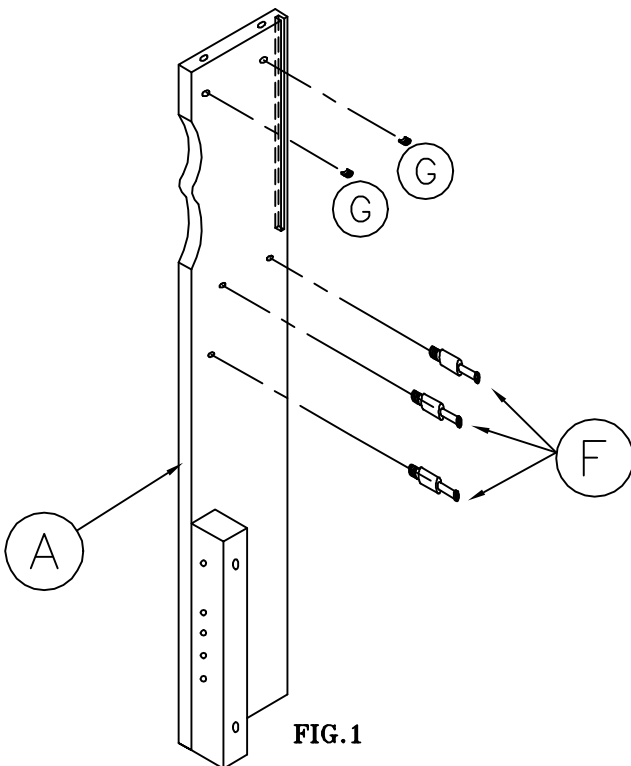
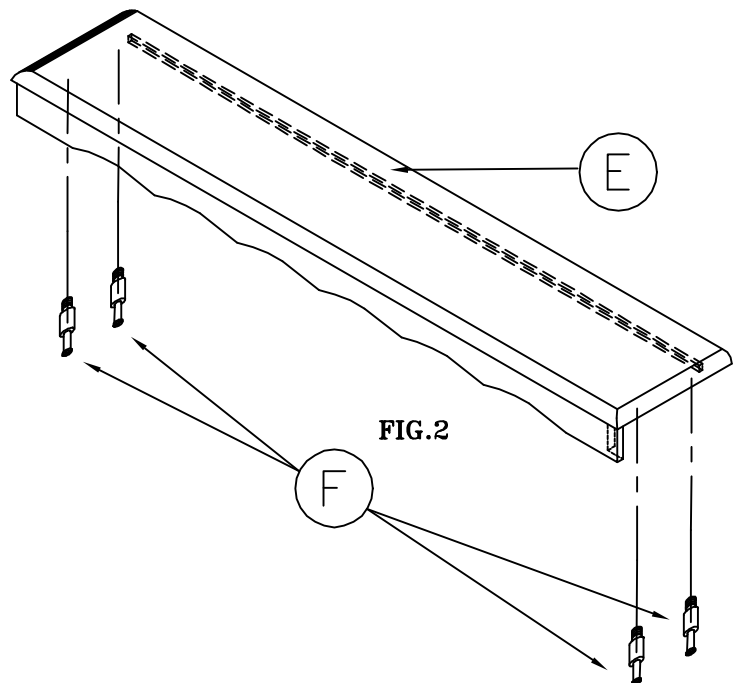

FIG.1
FIG.2
- Insert steel pins (F) into posts (A & B) and into bottom of top board (E). Do not over tighten.(See Fig.1 & Fig.2)
- Insert locking housings (G) into posts (A & B). (See Fig. 1)